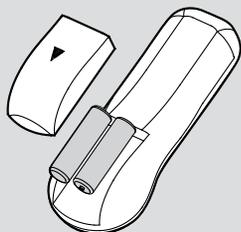

Fig.27
**REPLACING THE REMOTE CONTROL BATTERIES [Fig.27]**